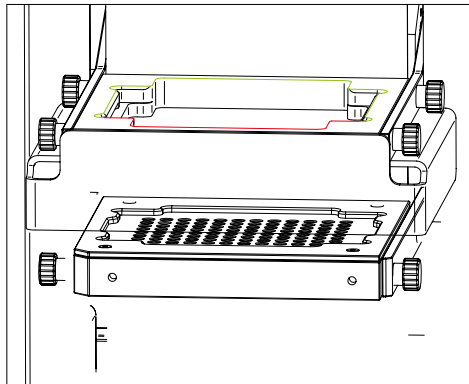
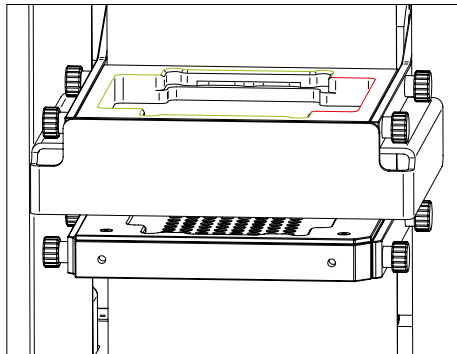

Figure 6a: Landscape orientation.
Figure 6b: Portrait orientation.
3. Align the MultiMACS Magnet with the metal brackets. The holes in the metal brackets must be aligned with the screw threads in the MultiMACS Magnet. The holes can only be aligned with the screw threads if the notched corner of the magnet with the cable outlet is to the left (landscape orientation refer to fig. 6a) or lower right (portrait orientation refer to fig. 6b).